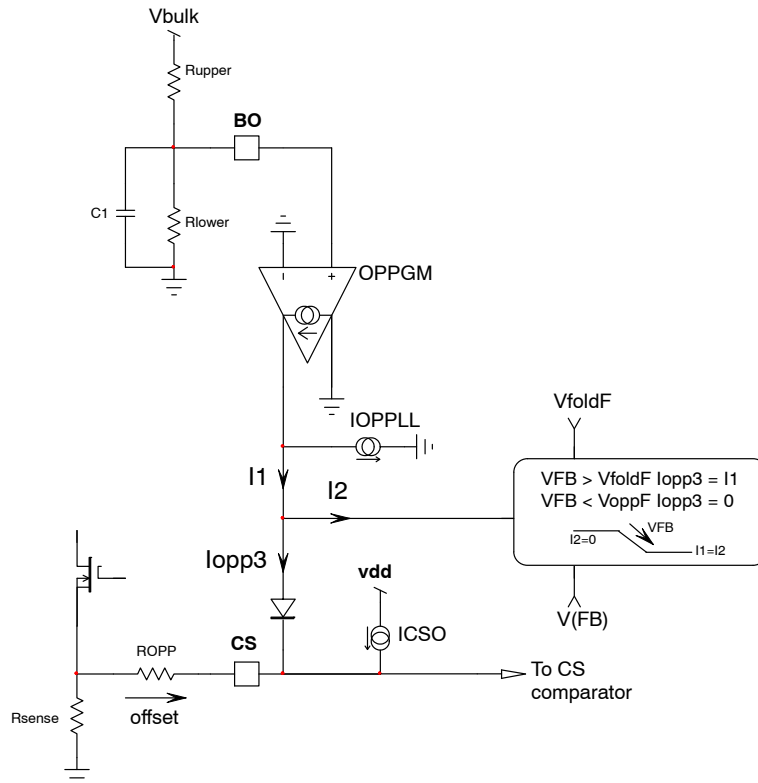

Figure 37. Over Power Protection is provided via the bulk voltage image present on Brown-Out pin
at low line. NCP1256 senses the input voltage via a resistive network primarily used for brown-out protection. This line image is transformed into a current information further applied to the current sense pin (CS). A resistor placed in series from the sense resistor to the CS pin will create an offset voltage proportional to the input voltage variation. An added current sink will ensure a 0 OPP current at low line, leaving the converter power capability intact in the lowest operating voltage. Figure 37 presents the internal simplified architecture of this OPP circuitry.